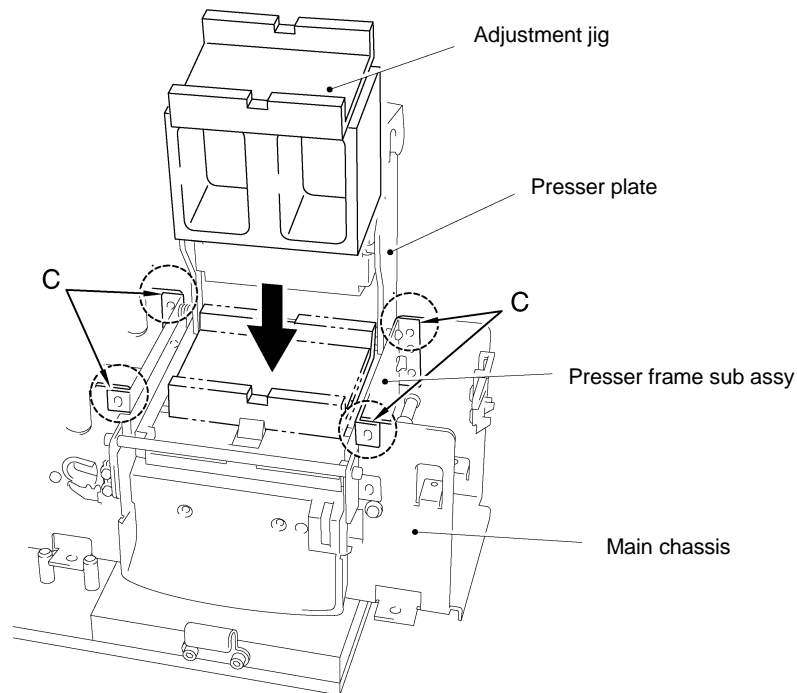

Fig. 3.72C
- (3) Open the presser plate, then place the adjustment jig in the presser sub unit assy, as shown in Fig. 3.72C.
- (5) Align the presser frame sub assy with the main chassis at four portions (C), with no gap being allowed between them, as shown in Fig. 3.72C.
- * Check that the presser frame sub assy is aligned with the main chassis at four portions (C), with no gap being allowed between them, as shown in Fig. 3.72C.